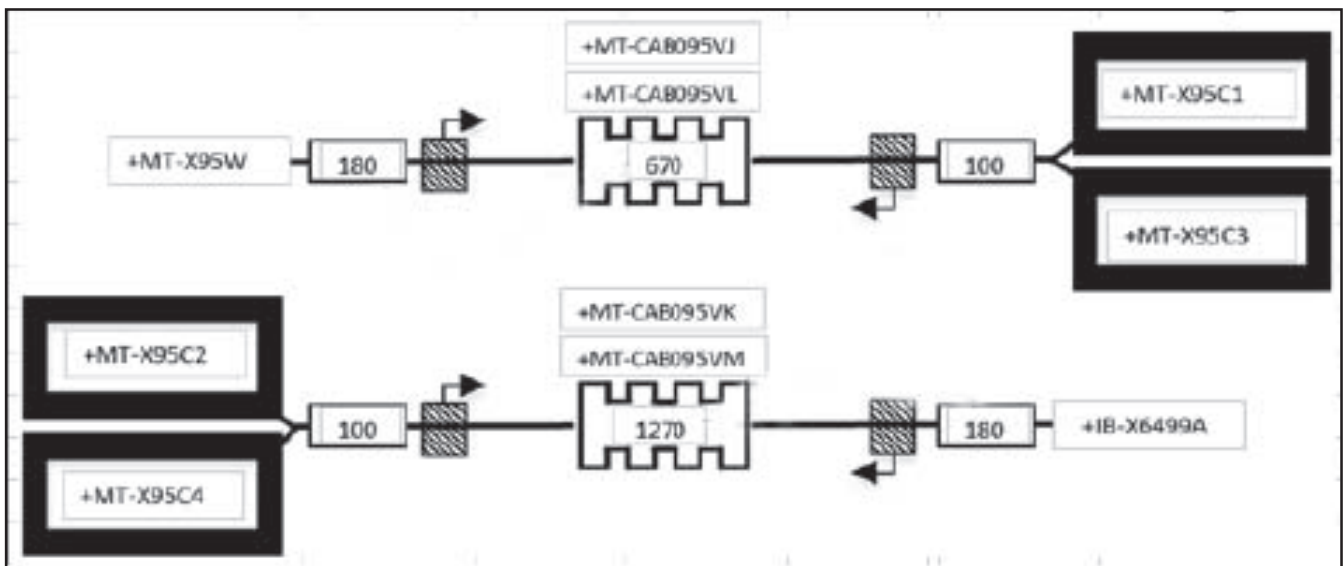

Figure 1 - Replacement Wire Kit
1.1. Replacement wire kit N632000435 (see Figure 1).